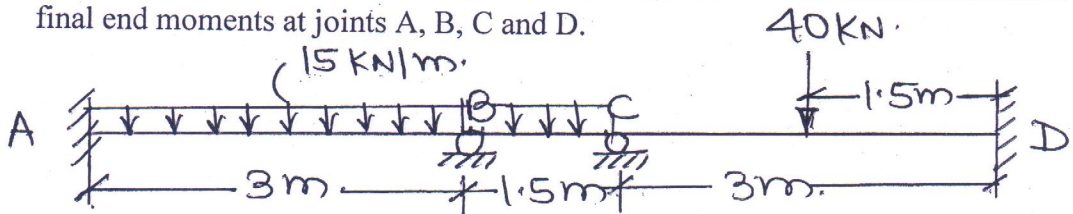

Fig. Q.1
Q.1 Fig.Q.1 shows a continuous beam ABCD with constant flexural rigidity  $3200 \text{ kNm}^2$ . Support B sinks by 10 mm. Analyse the beam by Moment Distribution Method. Find final end moments at joints A, B, C and D. (08)